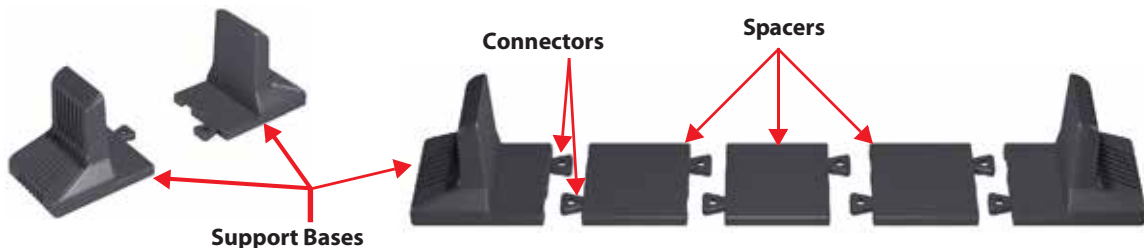

Figure 6: Support bases
1. Take out the support bases from the accessories bag (see Figure 6).
3. Connect the spacers and the support bases as shown in Figure 6. Each UPS needs two assembled support bases, one in the front and one in the rear.